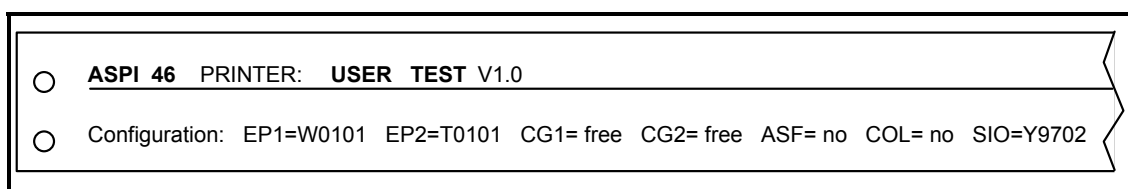

Figure 18-2 — Printer Diagnostic Test Pattern³⁴³⁴
4. When the display window shows T&DB, the printer prints a test pattern. See Figure 18-2.